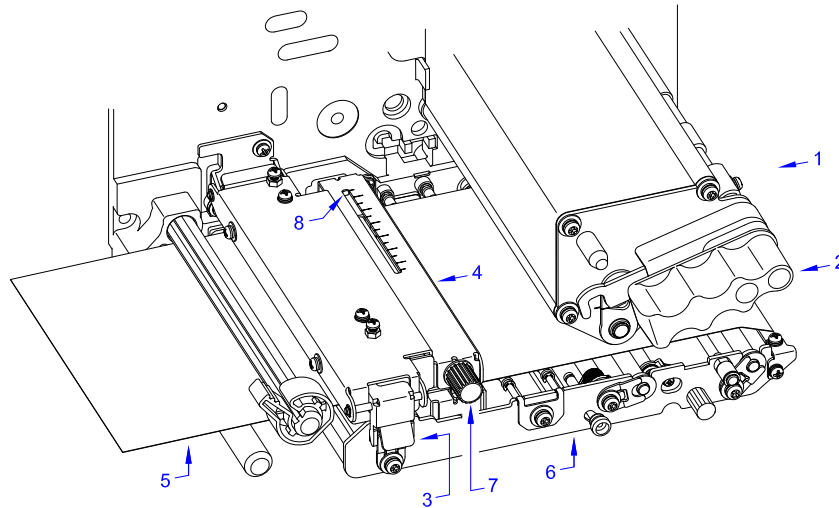

Figure 6-6, Label Sensor Positioning
1. Open the front housing cover to access print assembly (1, Figure 6-6).
2. Lift upward on print head latch (2) to disengage the print head as required.
3. Lift upward on label sensor latch (3) to hinge open the upper half of label sensor assembly (4).
4. Place label media (5) face-up and laterally onto printer chassis (6). Re latch label sensor assembly (4).
5. Find label sensor adjustment knob (7) located behind print assembly (1).